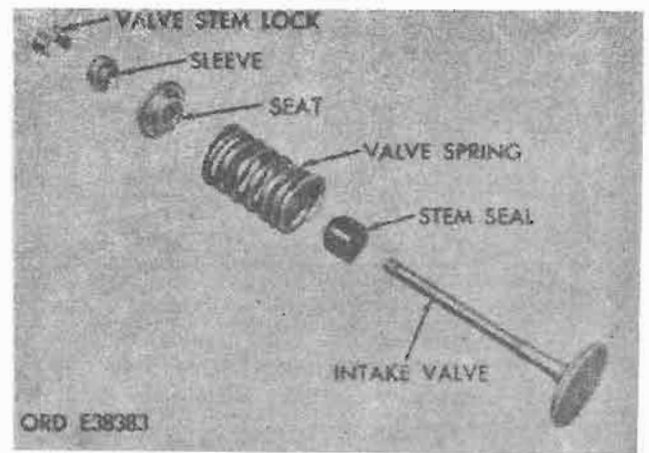

Figure 4-124. Intake valve assembly.
(3) *Intake valve.* Withdraw intake valve from valve guide and identify with grease pencil so it can be installed in guide from which it was removed (fig. 4-124). Repeat the same procedure on all four valves.
(1) *Intake valve and seals.* Install each valve in guide from which it was removed or to which it was fitted. Install valve stem over end of intake valve as shown in figure 4-124.